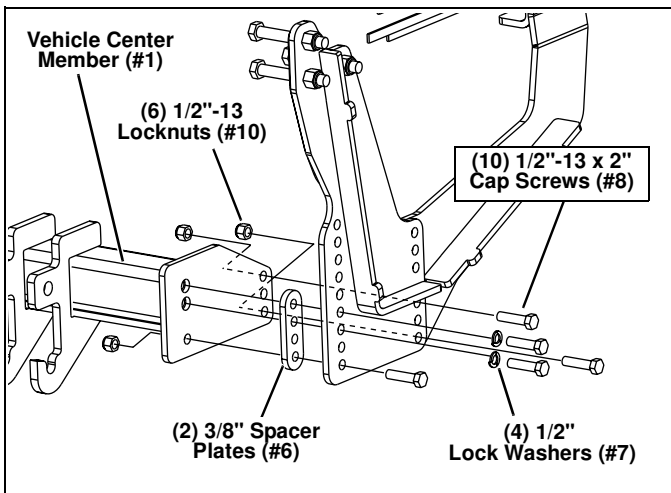

Figure 5
5. Attach the Vehicle Center Member (#1) to the Driver and Passenger Front and Rear Mount Weldments (#2 thru #5). Secure using (10) 1/2"-13 x 2" Cap Screws (#8), (4) 1/2" Lock Washers (#7), (2) 3/8" Spacer Plates (#6), and (6) 1/2"-13 Locknuts (#10). (See Figure 5.)